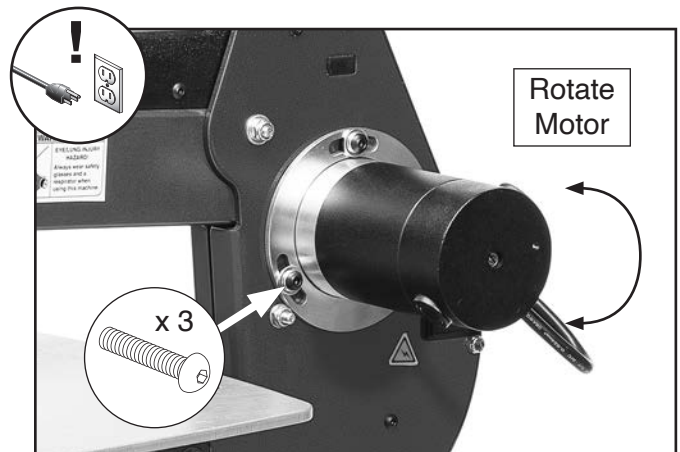

Figure 40. Motor mount screws.
5. Loosen motor mount screws (see **Figure 40**).
6. Rotate motor forward or backward and tighten motor adjustment screws (see **Figure 40**).